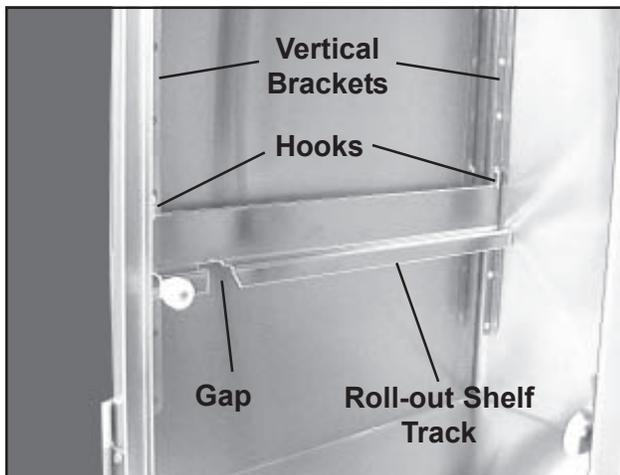

Figure 11. Roll-out Shelf Track and Vertical Brackets
3. Hook both roll-out shelf tracks to the front and rear vertical brackets at the desired level (Figure 11). **Note:** Make sure that the gaps in the roll-out shelf tracks are to the front.